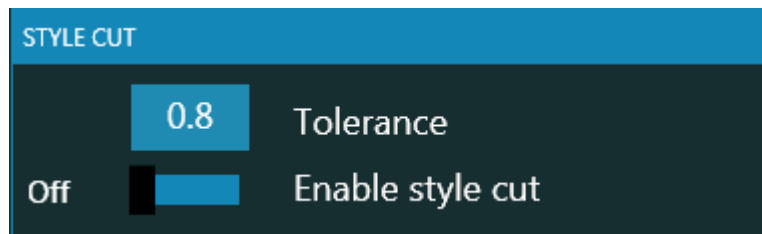

Figure 41
- **STYLE CUT:** In this area on the top regarding function may be enabled or disabled by operator (The function is disabled if floating menu as **Figure 41**). This function is generally used to make the small elements smoother while cutting.